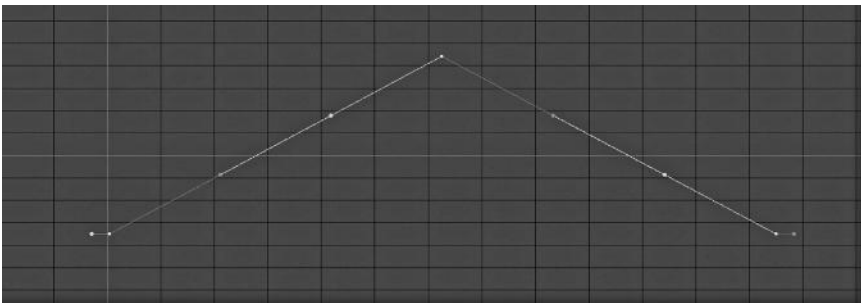

FIGURE 5.25 Example of linear tangents.
**Linear tangents**—Linear tangents are actually not tangents. There is no curve at all, and the values change in a completely even way from one keyframe to another. This produces no acceleration or deceleration effect at all, which reads as very “robotic.” When animating something with precise mechanical movement, linear tangents are often used (Figure 5.25).